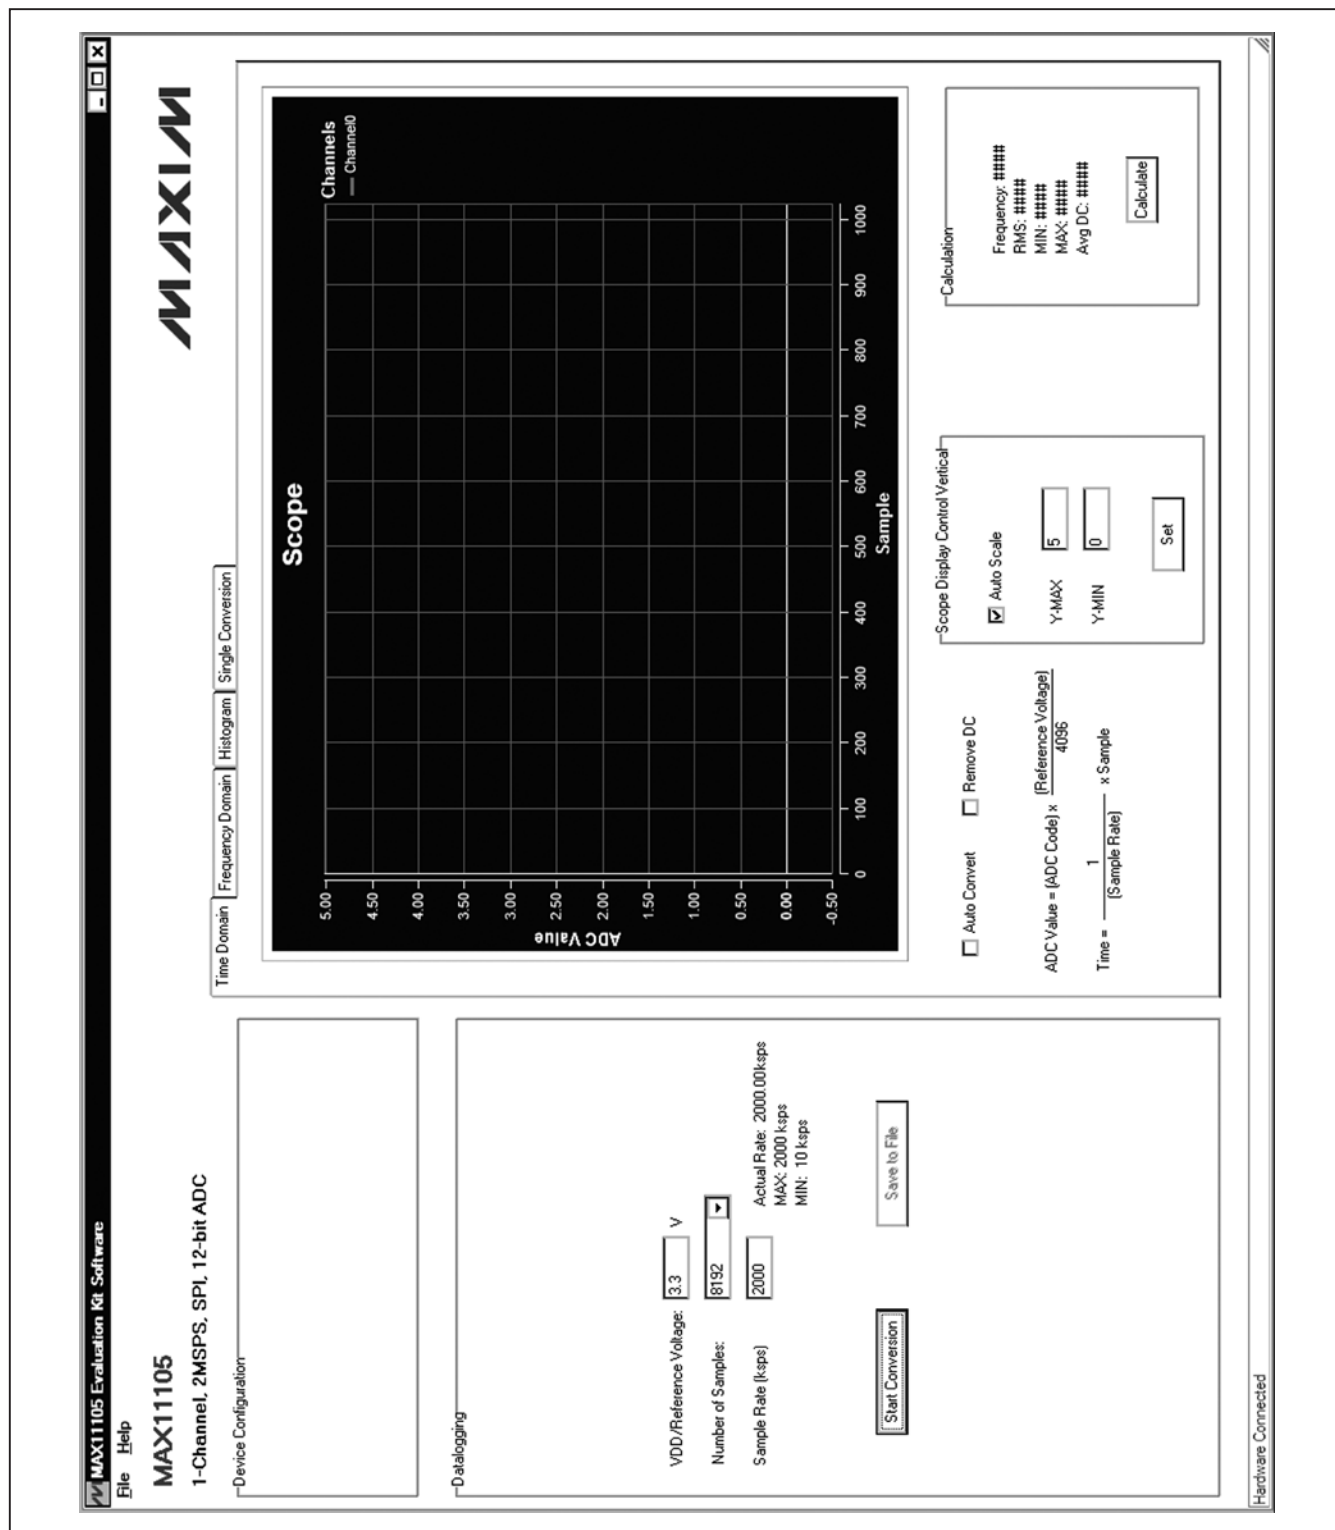

Figure 1. MAX1105 EV Kit Software Main Window
- 10) Start the EV kit software by opening its icon in the Windows **All Programs** menu. The EV kit software main window appears, as shown in Figure 1.
The main window of the evaluation software (Figure 1) contains a **Datalogging** group box and four tabs to display the sampled data.